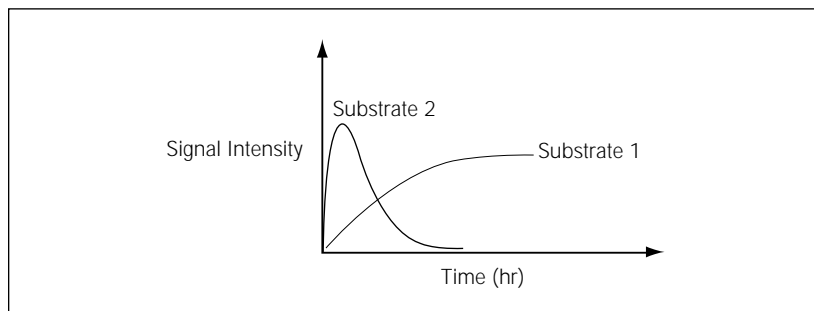

Figure 10-1. How signal intensity of a substrate and time affect the scan.
- **Substrate**—You should test several substrates and evaluate which substrate emits light for the length of time required for the Typhoon instrument to scan the sample. If the signal intensity of the substrate diminishes significantly before the instrument completes the scan, you might not be able to perform accurate quantitation on the last part of the sample scanned by the instrument (figure 10-1).